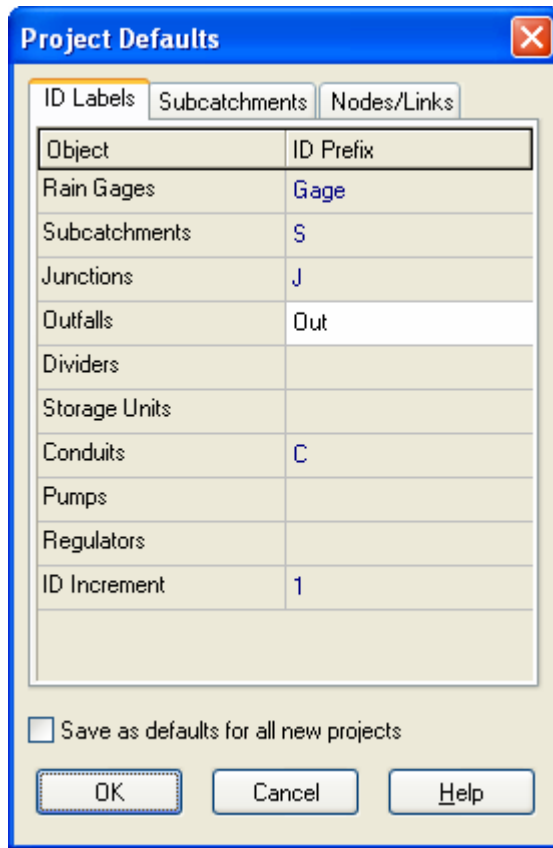

Figure 2-2. Default ID labeling for tutorial example.
- On the ID Labels page of the dialog, set the ID Prefixes as shown in Figure 2-2. This will make SWMM automatically label new objects with consecutive numbers following the designated prefix.